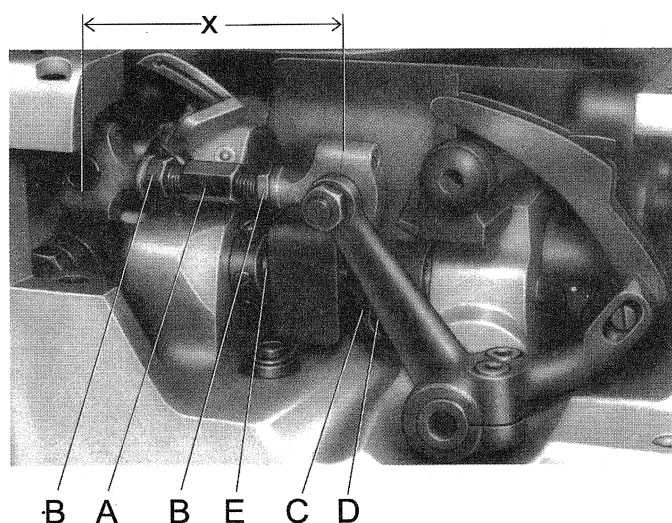
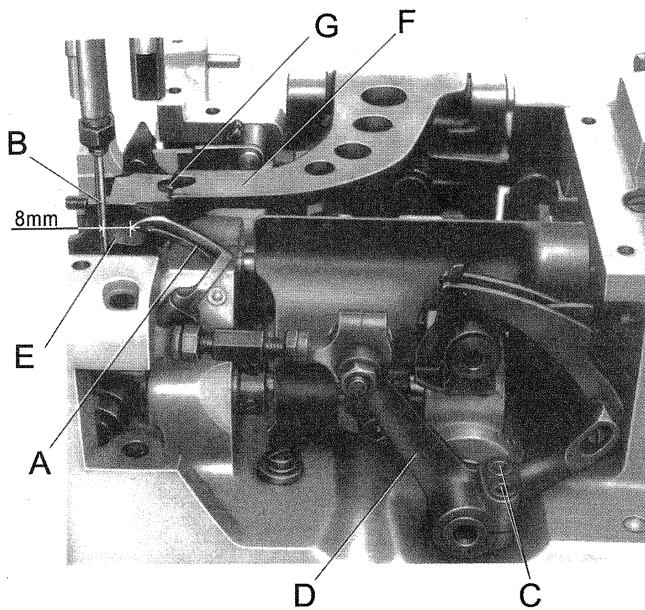
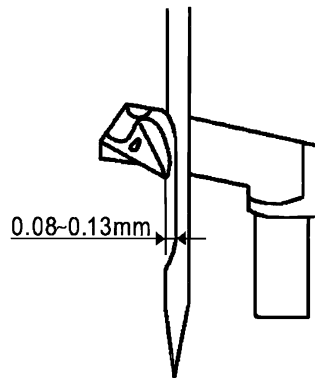

Fig. 4
Fig. 5
Fig. 6
Remove the presser foot, throat plate and feed dog and also the needle guard for convenient access to the machine. Loosen the screw (G, Fig. 5) in the feed bar (F) and push the feed bar needle guard (E) to the rear to avoid its contacting the needle (B).
Set the looper connecting rod (A, Fig. 4) so the distance (X) between the center lines of the two ball joints is 69.8 mm (2 3/4"). For adjustment loosen the two nuts (B) and turn connecting rod (A) forward or backward as required to obtain specified dimension, retighten nuts (B).
Set the looper (A, Fig. 5) so the distance from the center line of the needle (B) to the looper (A) is 8 mm (5/16") when the looper is at its farthest position to the right. For adjustment loosen screws (C) in the looper drive lever (D), reposition as required to obtain specified dimension and retighten screws (C) assuring that all end play is taken out of the looper drive lever rocker shaft. Check to insure a clearance of approx. 1 mm (.040") between the
Rotate the machine pulley in operating direction so that the looper (A, Fig. 5) moves from right to left. The looper point should pass as close as possible to the back of the needle without contacting 0.08 to 0.13 mm (.003 to .005") (see Fig. 6) clearance. For adjustment loosen screws (D, Fig. 4) in the looper eccentric fork (C) and turn looper rocker shaft (E) on the looper rocker forward or backward as required. Retighten screw (D).
Rotate machine pulley in operating direction until the needle guard against the needle. Loosen screw (G, Fig. 5) in the feed bar (F) and adjust the needle guard (E) accordingly. Retighten screw (G).